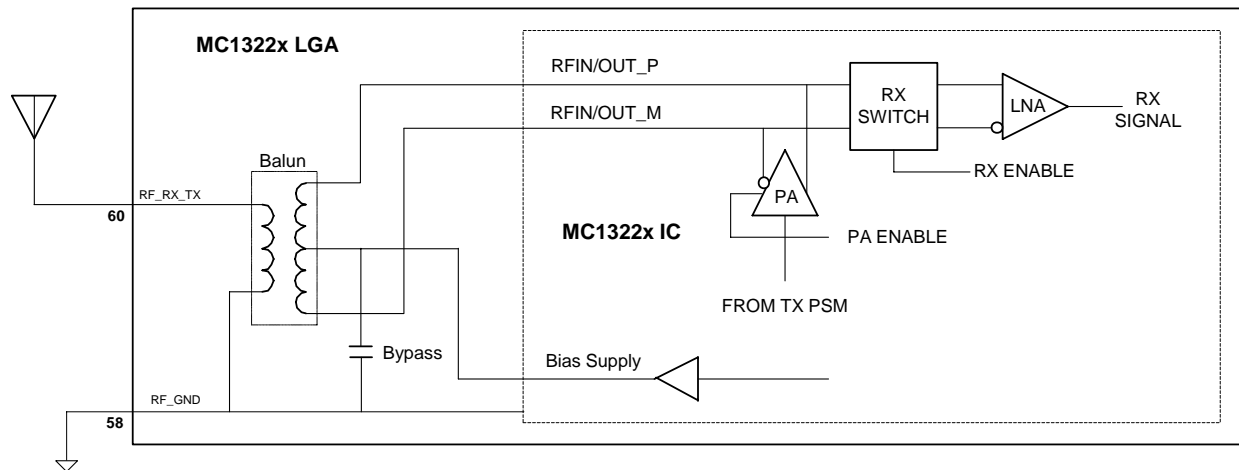

Figure 3-13. MC1322x Standard Single-Ended RF Connection
The MC1322x radio interface provides for lowest cost and highest integration as shown in Figure 3-13. The PiP concept in the LGA package contains components interconnected with the IC to provide the integrated RF network.
As illustrated in Figure 3-13, there is an integrated internal RX switch and separate differential PA on the IC. The IC signals RFIN/OUT_P and RFIN/OUT_M are bidirectional and are connected for both for TX and RX. When receiving, the RX switch is enabled to the internal LNA and the PA is disabled. When transmitting, the RX switch is disabled (isolating the LNA) and PA is enabled. The bias supply provides the reference voltage to the balun that converts a single-ended antenna to the differential interface required by the device.
- **RF_RX_TX** - as illustrated in Figure 3-13 this RF port has an on-package balun that converts the single-ended external signal to a differential port at the device silicon. This differential port has an on-silicon LNA and a primary complementary PA that is automatically controlled for receive or transmit. This RF_RX_TX port can be used for RX, TX, or both. It is the only RX input however.